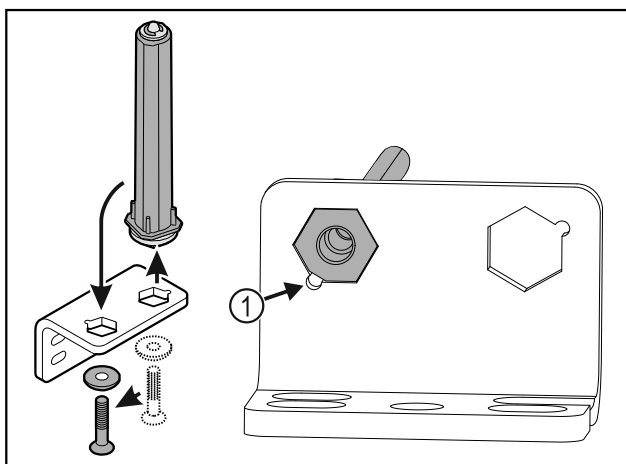

Fig. 34
- Make sure the pin chamfer Fig. 34 (1) faces the round hole when you put it in.